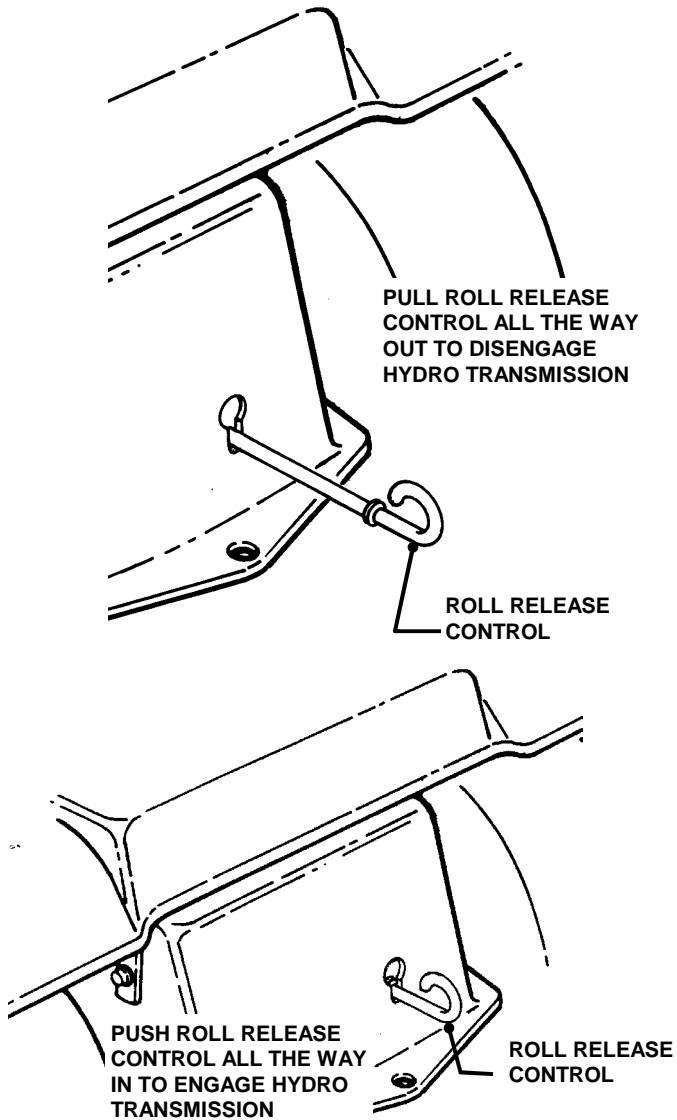

FIGURE 2.15
2. Pull the roll release control all the way out to disengage the hydro transmission. See Figure 2.15.
4. Push roll release control all the way in to engage hydro transmission. See Figure 2.15.